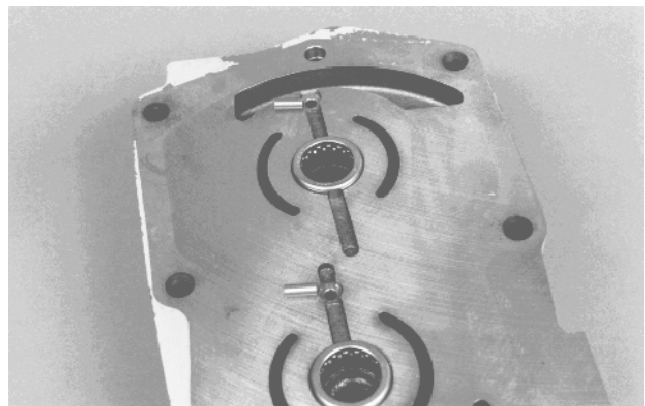

Figure 45
6. Remove valve plate pins from the center section (Fig. 45).